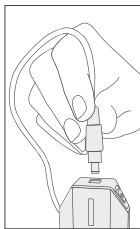

FIG.11
4. Connect the power supply to the device (Fig.11)